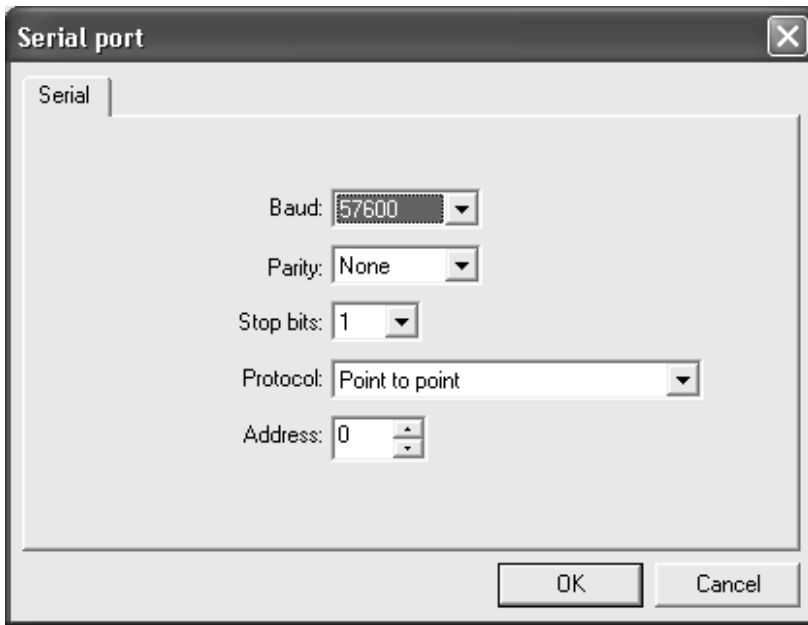

Figure 2-2:
- If you are using the serial interface, select the appropriate COM port number. Click OK to display the Serial port dialog box (Figure 2-2), then complete the fields in that dialog box.